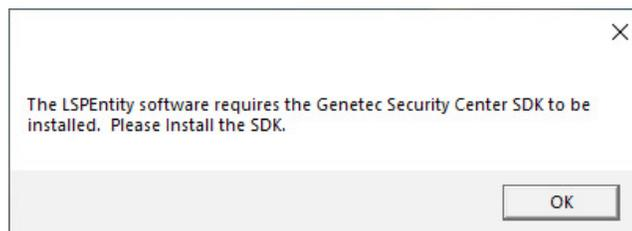

Figure 8
10. When opened for the first time, the LSPServer application will alert the user that the Genetec Security Center SDK is not installed. Click OK to unzip the files (Figure 8).